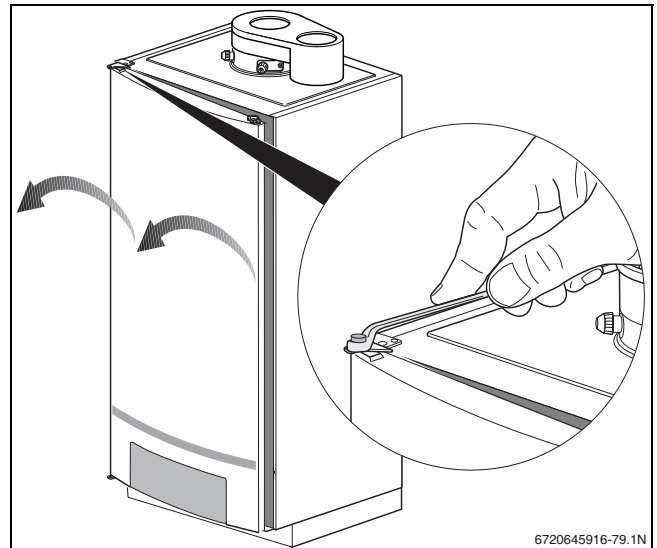

Fig. 81 Removing the boiler door
- ▶ Unscrew the bolt from left-hand top hinge of the boiler door and remove it together with the washer (→ fig. 81).